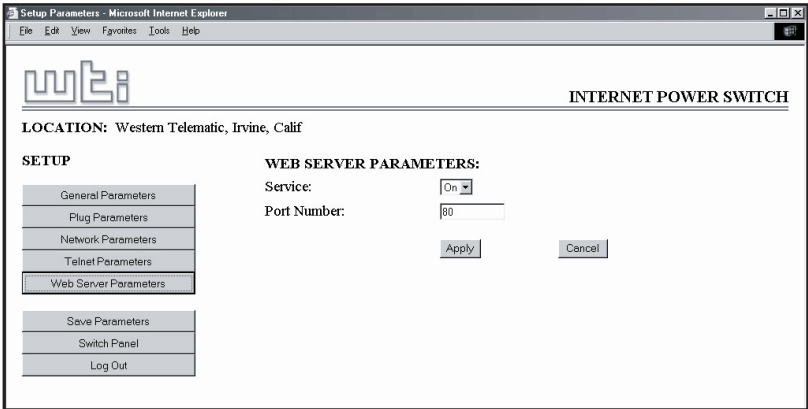

Figure 5.12: Web Browser Parameters Menu - Web Browser Interface
**Web Browser Interface:** Click the "Setup" button to access the configuration menus, and then click the Web Server Parameters button. The Web Server Parameters Menu will be displayed as shown in Figure 5.12.